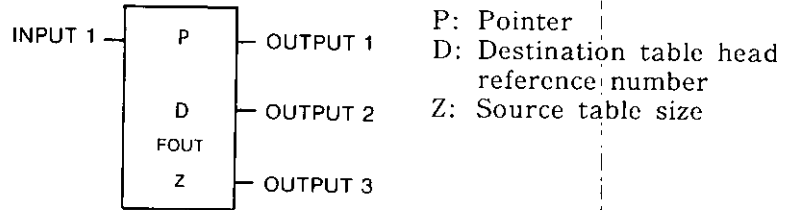

Fig. 5.56 FOUT General Form
- Fig. 5.56 shows the form of first out.